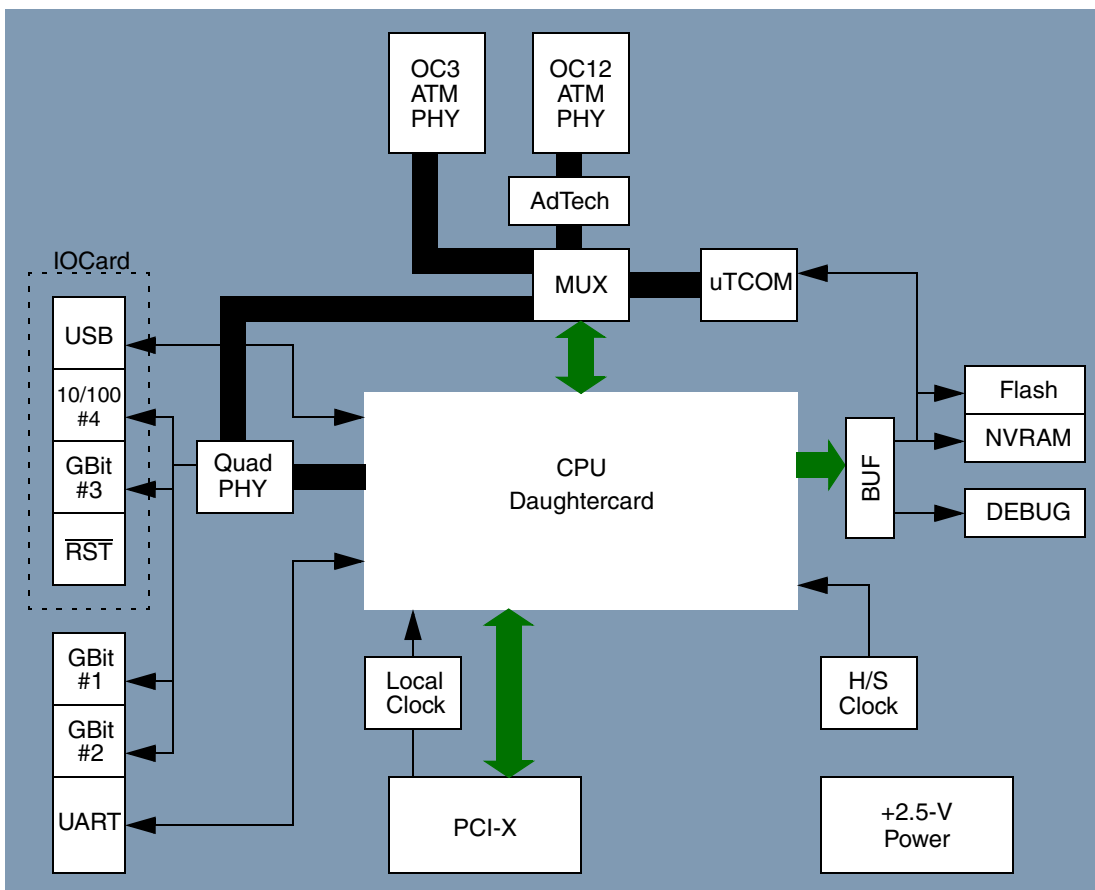

Figure 1-1. Carrier Block Diagram (Configuration 1)
- High-speed/high-density connectors for all CPU signals except core power, memory and high-speed serial interface. These signals are connected to the carrier via the header (right) and header (left) as shown in Figure 1-1.
Figure 1-1 is a diagram of the CDS system for Configuration 1.